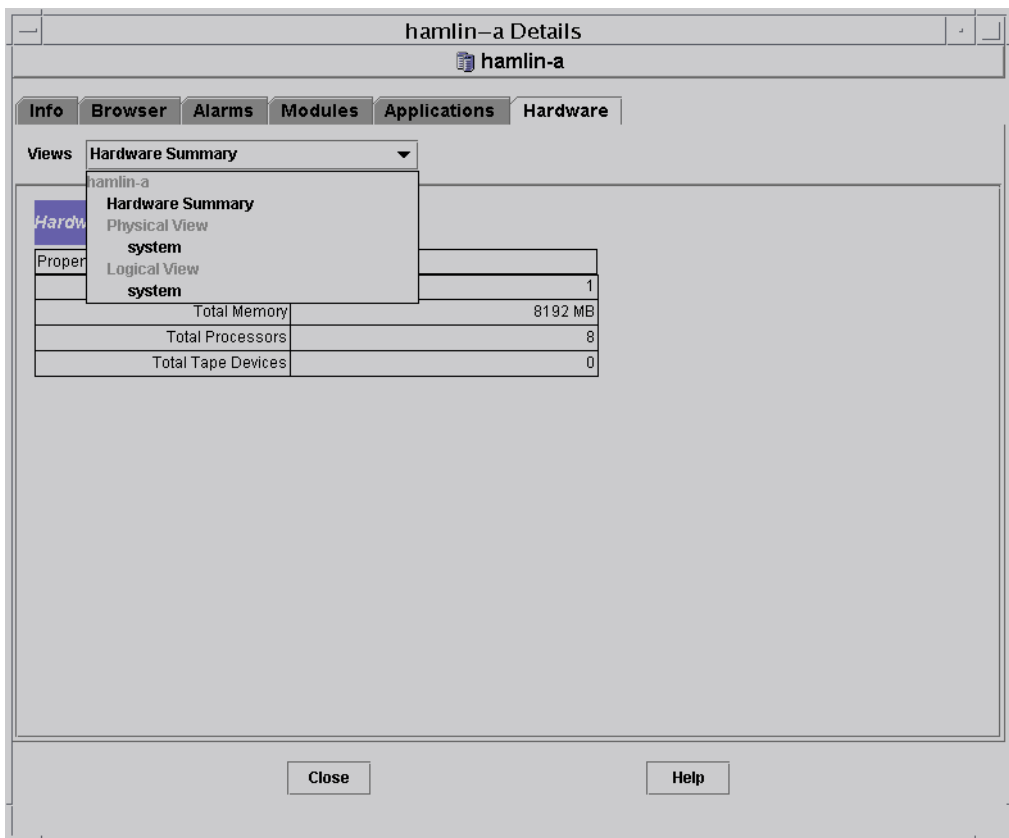

FIGURE 9-13 Hardware Summary List of Components in Hardware Details Window
2. In the **Views** pull-down menu, select an item under either **Physical View** or **Logical View**. See FIGURE 9-13.